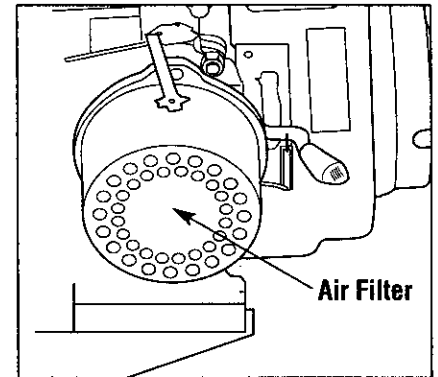

Figure 4-9: Engine Air Filter.
3. Place the cover (with filter inside it) on the base of the air cleaner. Align the two screw holes in the cover with the two screws in the base of the air cleaner. Refer to Figure 4-9.